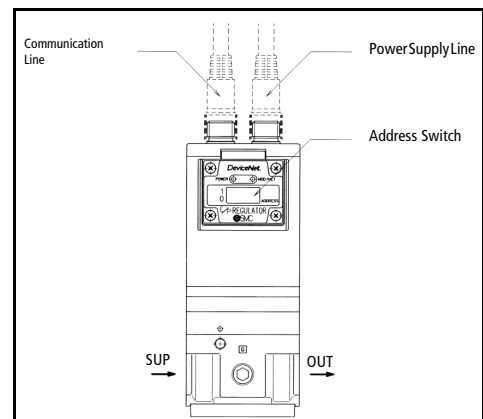

Fig 6
1. The setting of an address switch requires the removal of 4 screws in the front panel of the unit (Fig 6). Take care that the panel hinges to 90 degrees maximum.